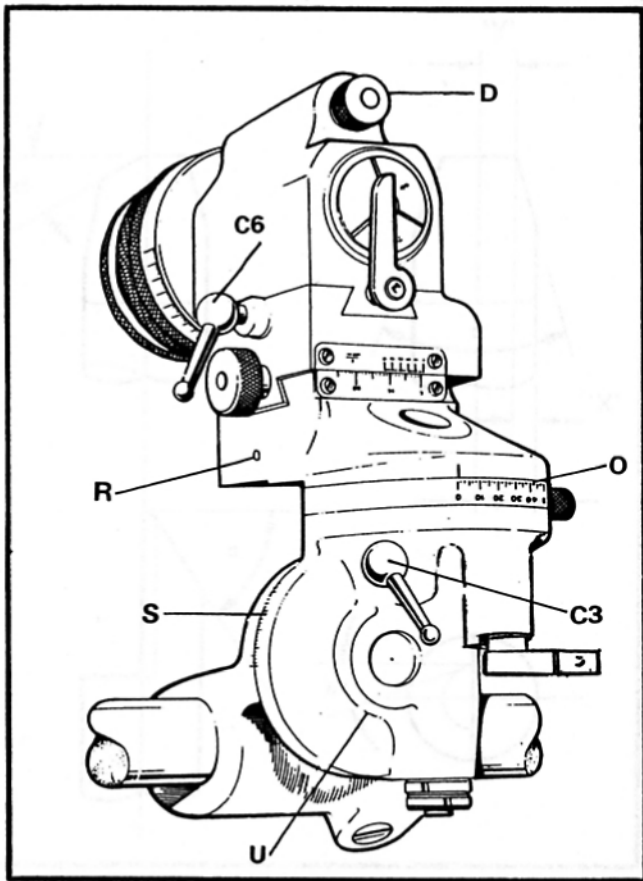
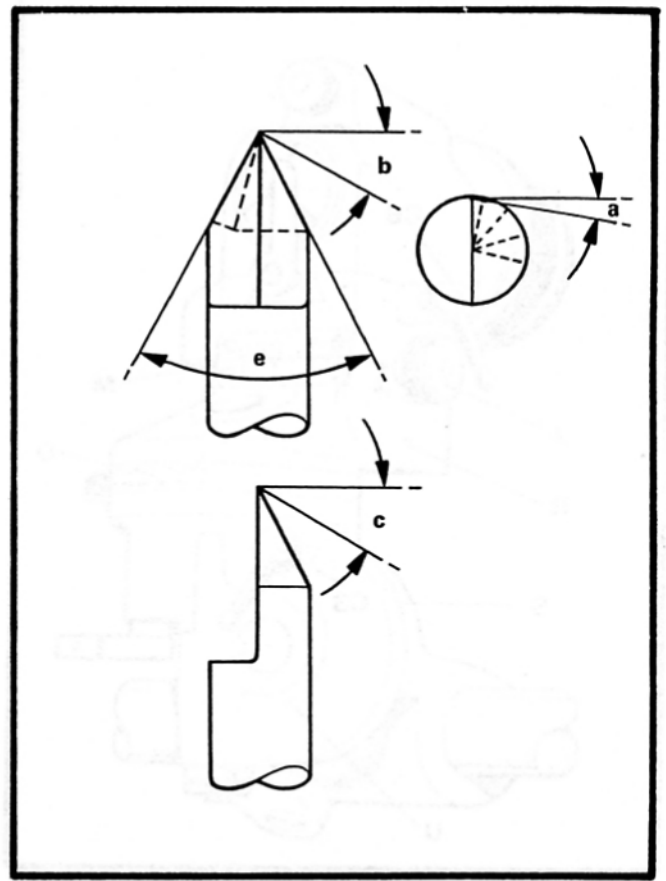
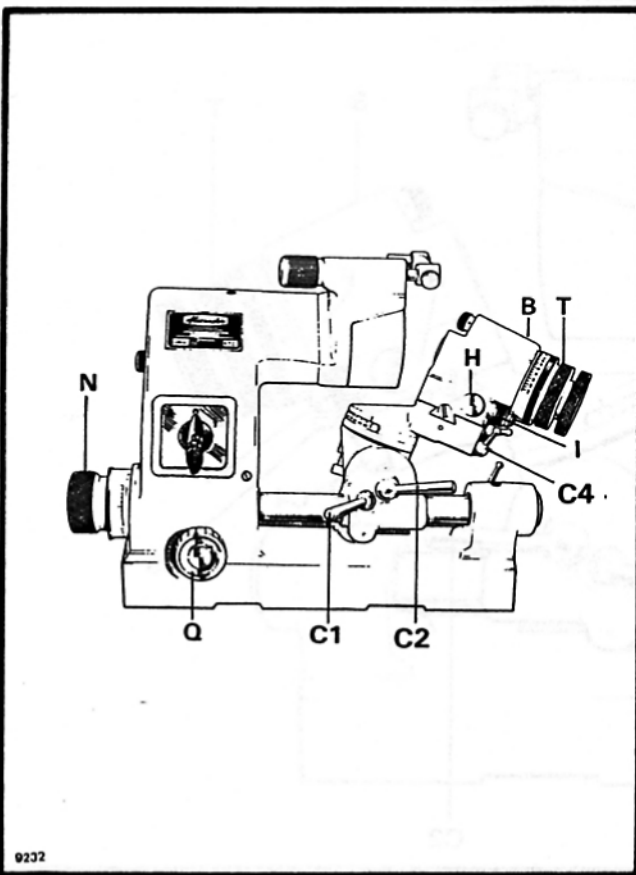
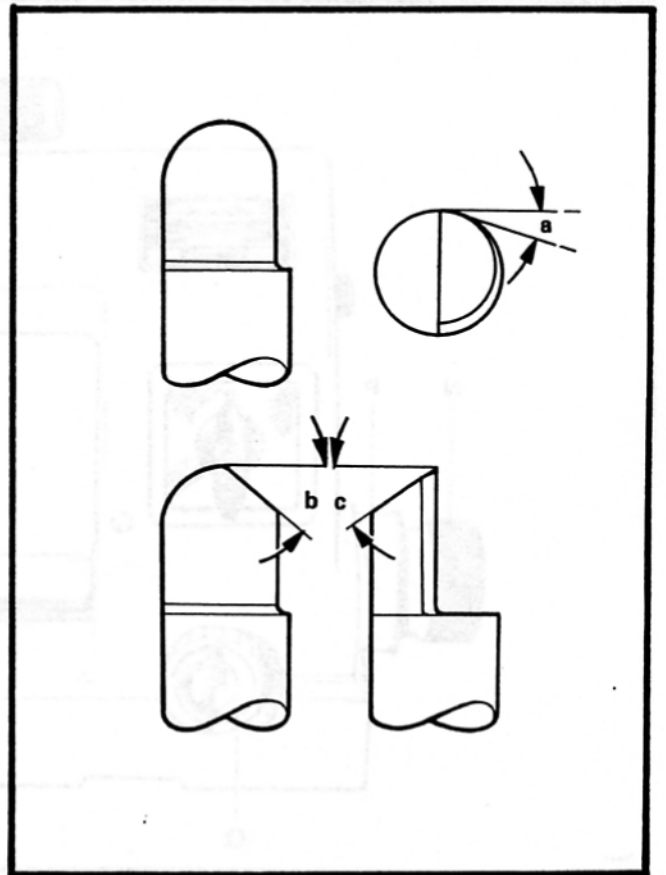

FIG. 14
FIG. 15
FIG. 16
FIG. 17
Because it is a quick operation to regrind a cutter it is more economical to sacrifice part of the life of the cutting edge and increase the machining rate. To obtain the best results and finish, lightly stone the flat face of the cutter. The cutting edge can also be stoned, but this must be done very carefully. When using a high speed on hard materials, the cutting edge may be lightly removed by stoning. For tough materials, it is sometimes advisable to leave a 0.003" (0.075 mm) land rather than grinding to a knife edge, this will increase the life of the cutter. When using pointed engraving cutters it is an advantage to remove the point by stoning (see Fig. 15).
C. Engraving Cutter (Figs. 14, 15, 16)
After halving and setting the cutter (as described on page 2) check that all the readings are set to zero and the handles locked. Engage the index pin of the snap lock D (Fig. 14) into the left hand hole to enable the collet to be rotated through 180° .
Release the clamping levers C3 (Fig. 14) and C4 (Fig. 16). Hold the index drum O (Fig. 14) clockwise against stop and set the swivel arm against the scale O (Fig. 14) to one half of the included angle required. Re-lock C3 (Fig. 14) and C4 (Fig. 16).
Release the clamping lever C2 (Fig. 16) and using the angular scale S (Fig. 14) set the swivel arm to the clearance angle ('a' Fig. 15) required and reclamp the lever C2 (Fig. 16). Release the clamp C1 (Fig. 16) and slide the complete cutter unit along the guide bar until the cutter is just clear of the face of the wheel and reclamp C1 (Fig. 16). Set stop Q (Fig. 16) to give adequate cross movement. Then using the micrometer drum N (Fig. 16) feed the cutter into the grinding wheel. Grind the cutter by passing it backwards and forwards across the wheel and at the same time rotating it through 180° . Grind the cutter to a point. Secondary clearance angles formed by stoning are shown more clearly in Figure 15. The flat on the top of the cutter will give an offset cutting edge. For fine engraving cuts not exceeding 0.0004" (0.01 mm) the shape of the cutter should not be changed.
D. Straight Sided Round Nose Cutter (Figs. 14, 16 and 17)
Halve and set the cutter (as described on page 2) and make sure that all readings are set at zero. Swing the tilting support arm U (Fig. 14) to set the clearance angle (a) (Fig. 17) required, on the angular scale S (Fig. 14). Position the index pin of the snap lock D (Fig. 14) in the right hand hole and by unclamping the lock C1 (Fig. 16) slide the cutter unit along the guide bar until the cutter just clears the face of the grinding wheel. Adjust the handwheel Q (Fig. 16) for the length of the cutting edge required and grind the outside diameter of the cutter to +0.005" (0.12 mm) of the size required.
NOTE: After this operation is completed the micrometer drum N (Fig. 16) must not be moved until after the nose radius has been ground.
Loosen the locking handle C3 (Fig. 14) and swing the support arm R (Fig. 14) through 90° , roughly position the collet housing B (Fig. 16), by unlocking the clamping screw H (Fig. 16) and the handle C6 (Fig. 14) and moving the nose of the cutter forward until it is just clear of the grinding wheel face. Tighten the clamping screw H (Fig. 16). Advance the nose of the cutter to the face of the wheel using the knurled adjusting screw I (Fig. 16) and grind to clean up the end of the cutter to establish a datum. Lock the handle C6 (Fig. 14). Rough out the spherical nose by rotating the collar T (Fig. 16) through 360° and at the same time swinging the support arm R (Fig. 14) through 90° . Return the support arm R (Fig. 14) to the zero position so that the cutting edge is parallel to the wheel, do not tighten the locking handle C3 (Fig. 14). Finish grind the outside diameter of the cutter to +0.002" (0.05 mm) by advancing the cutter towards the wheel using the micrometer drum N (Fig. 16), at the same time swinging the support arm R (Fig. 14) through 90° and rotating the collar T (Fig. 16).
To grind the clearance angle (a) (Fig. 17) return the red dot to the window F and engage the index pin of the snap lock D (Fig. 14) in the left hand hole and grind the clearance by feeding the cutter to the wheel using the micrometer drum N (Fig. 16) and swinging the support arm R (Fig. 14) through 90° . At the same time rotate the cutter through 180° until a small land is formed on the cutter. Then advance the micrometer drum N (Fig. 16) by 0.0005" (0.01 mm) increments until the land just disappears and a sharp edge is obtained. Advance another 0.0005" (0.01 mm) to take a finishing cut.